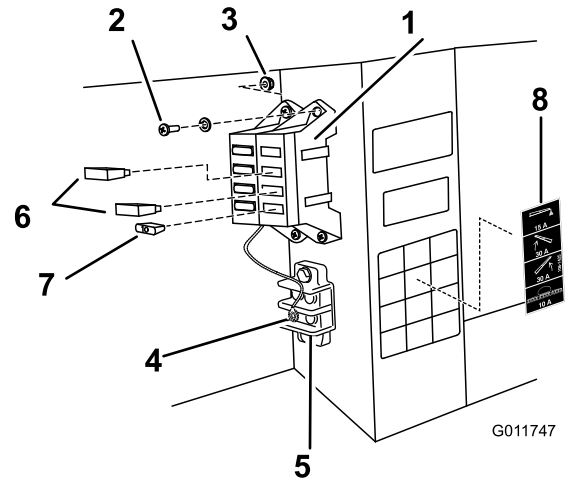

Figure 12
8. Connect the black ground wire to the existing 1/4 inch bolt on the interior side of the vehicle frame, using the star washer (Figure 12).
10. Install the fuse block and harness to the frame along side the existing fuse blocks, using the two screws (#10-24 x 3/4 inch) and two locknuts (#10-24) as shown in Figure 12.
- A. Install the two 30 amp thermal breakers to the left and right boom lift fuse slots (Figure 12).
- B. Install the 10 amp fuse to the spray system power fuse slot (Figure 12).